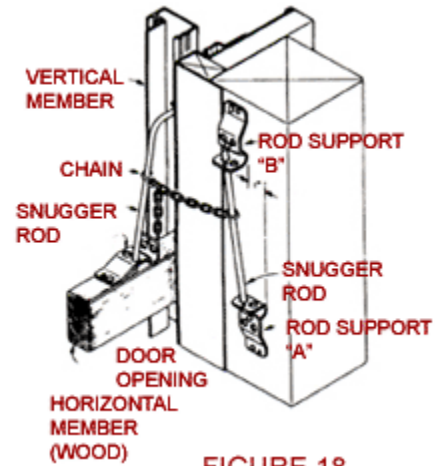

FIGURE 18
8.) Secure rod support "A" to door jamb so as to be level with the horizontal door member as shown in **Fig. 18** (Rod support fasteners are NOT supplied.)
13.) After making certain the "S" hook is in the proper link (latched chain should be about 6" from top of horizontal member), close the "S" hook slightly so it will not become detached from chain. **Fig. 18**.